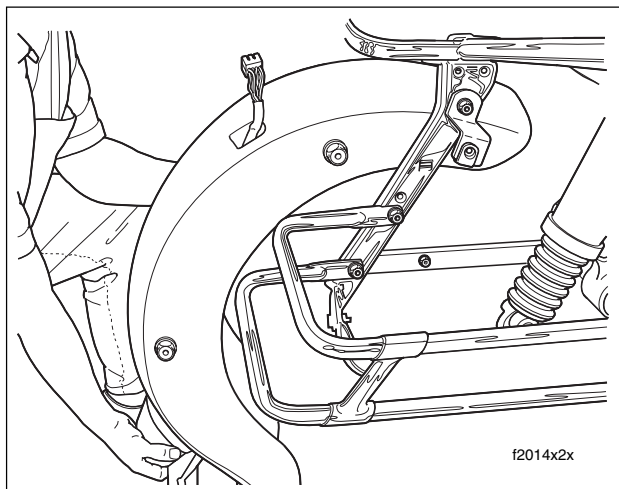

Figure 2-184. Carefully Roll Out Rear Fender
13. Exercising caution to avoid scratching fender paint on luggage rack or other bracketry, carefully roll the fender out. See Figure 2-184. If necessary, have one person spread the saddlebag support brackets while the fender is rolled out.
1. Exercising caution to avoid scratching fender paint on luggage rack or other bracketry, carefully roll the fender in. See Figure 2-184. If necessary, have one person spread the saddlebag support brackets while the other rolls the fender in.